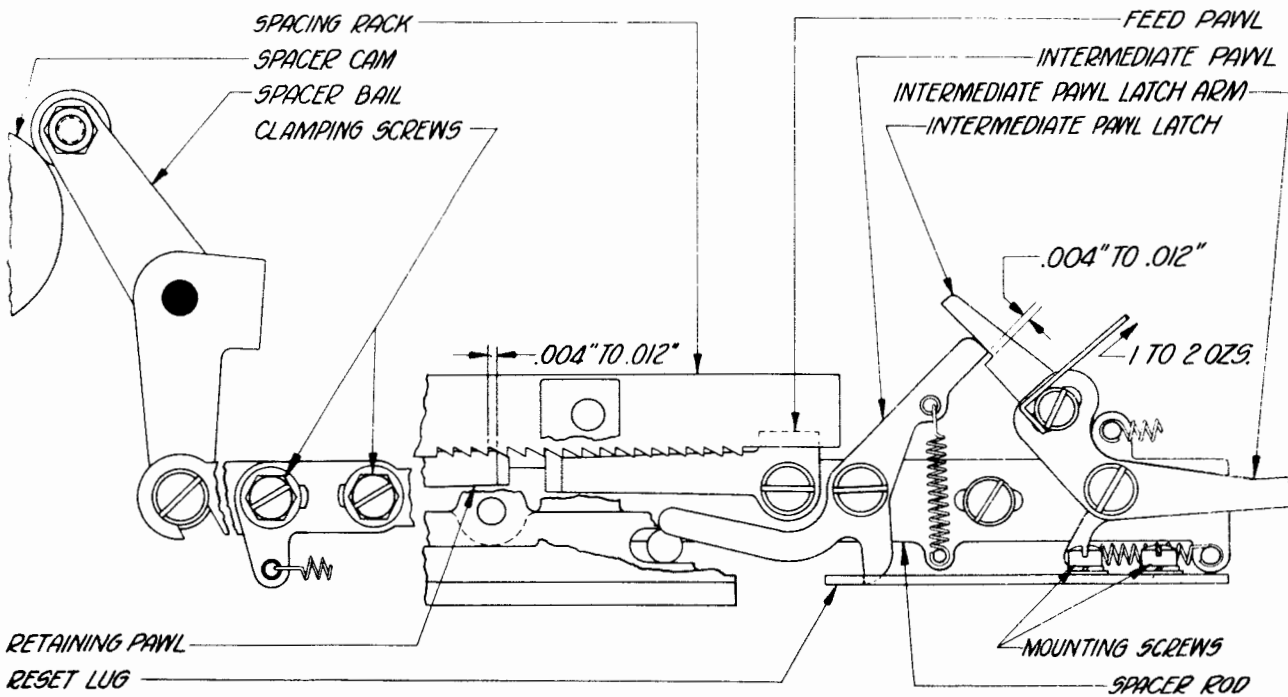

Figure 21
When the feed pawl engages the fourth tooth from the retaining pawl, the third tooth from the left end of the spacing rack should overtravel the retaining pawl by minimum 0.004 inch, maximum 0.012 inch, when the spacer-bail camroller rides on the high part of its cam. Check this overtravel on both high parts of the cam. See Figure 21.
2.44 Reset Lug: The intermediate pawl should overtravel the latching surface of its latch, by minimum 0.004 inch, maximum 0.012 inch, when the spacer-bail camroller is on a high part of its cam. Check for this clearance on the other high part of the cam. When the perforator has the improved spacer rod mechanism, the overtravel should be minimum 0.004 inch, maximum 0.020 inch. See Figure 21.
With the intermediate pawl out of engagement with the notch in the intermediate-pawl latch, hook a scale over the head of the intermediate-pawl-latch clamping screw, and pull at right angles to the pawl latch. A pull of minimum 1 ounce, maximum 2 ounces, should be required to start the latch moving. When the perforator has the improved spacer rod mechanism, the required pull should be minimum 3 ounces, maximum 5 ounces. See Figure 21.